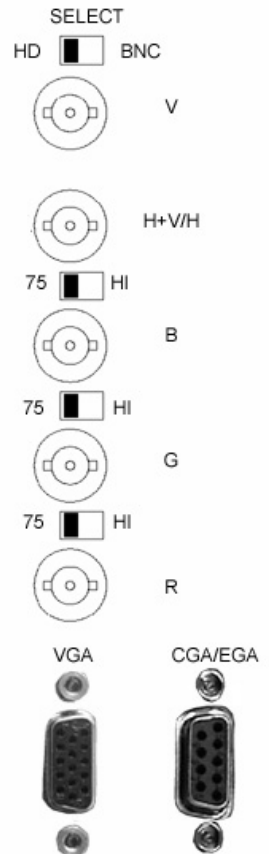

Figure 1: Female Type
**HD15(F) CONNECTOR:** (Figure 1) Connects to standard PC type graphics cards. The monitor can display standard VGA graphics modes at 640 x 480 @60Hz, 70Hz, 800 x 600 @56Hz, 60Hz, DOS text, 1024x768 (interlaced)